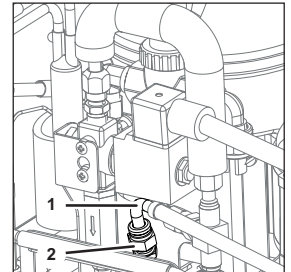

Fig. 64
1. Disconnect the CO₂-IN line (Fig. 64/1) at the bolted connection (Fig. 64/2).
13. Connect the CO₂-IN line (Fig. 64/1) with the bolted connection (Fig. 64/2).